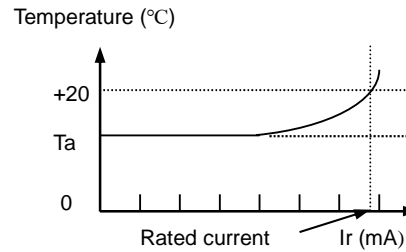

Fig. 5.3.3-2
- e. When operating temperatures exceeding  $+85^\circ\text{C}$ , derating of current is necessary for chip ferrite beads for which rated current is 1000mA and over. Please apply the derating curve shown in chart Fig. 5.3.3-3 according to the operating temperature.